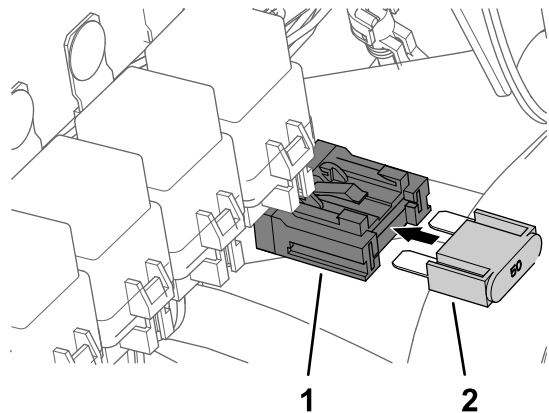

Figure 191
7. Insert the fuse (50 A) into inline-fuse block until the fuse is fully seated (Figure 191).